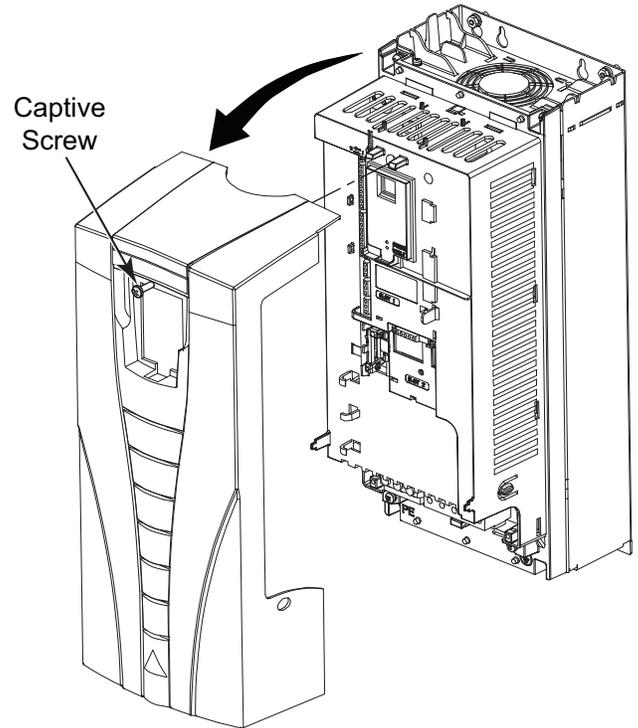

Fig. 33 — Remove ACH550 VFD Front Cover
2. Remove the drive cover (see Fig. 33).